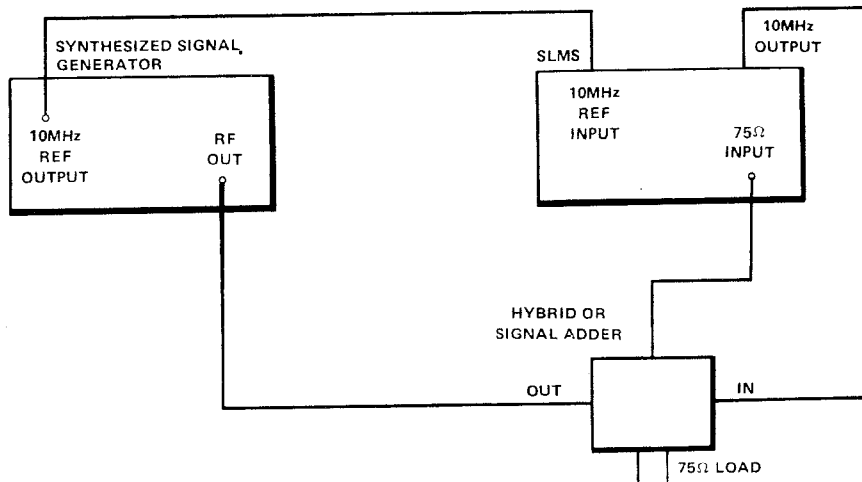

Figure 4-11 Phase Jitter Test
21. Connect the equipment as shown in Figure 4-11.
15. Connect the test equipment up as shown in figure 4-11.